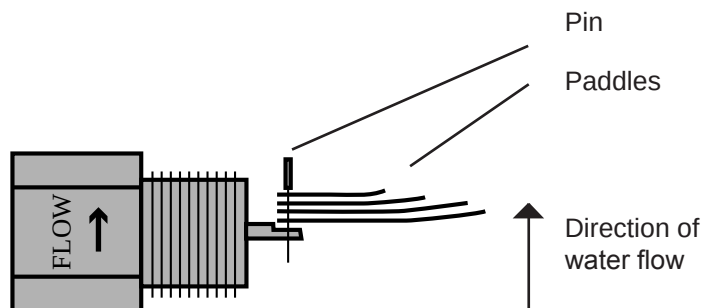

Fig. B10-1 - Attaching the paddles
7. Once you have trimmed the paddles, install them on the switch. See Fig. B10-1. Insert the pin to attach the paddles to the center post.
- The flowing water should hit the longer paddle first. See Fig. B10-1.